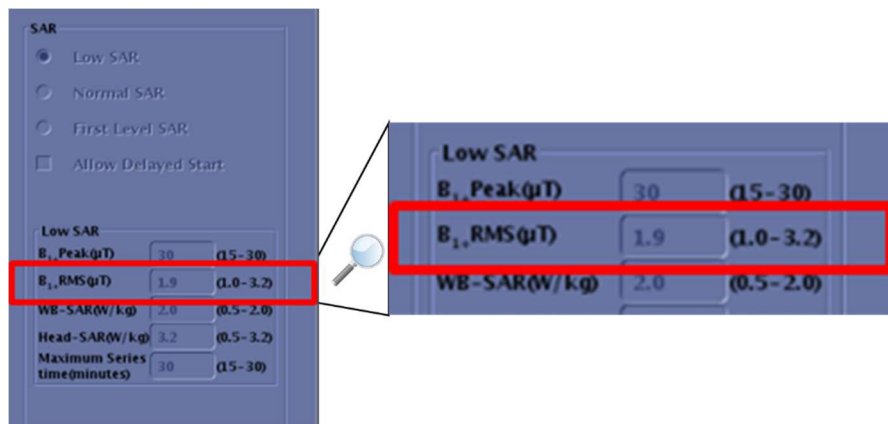
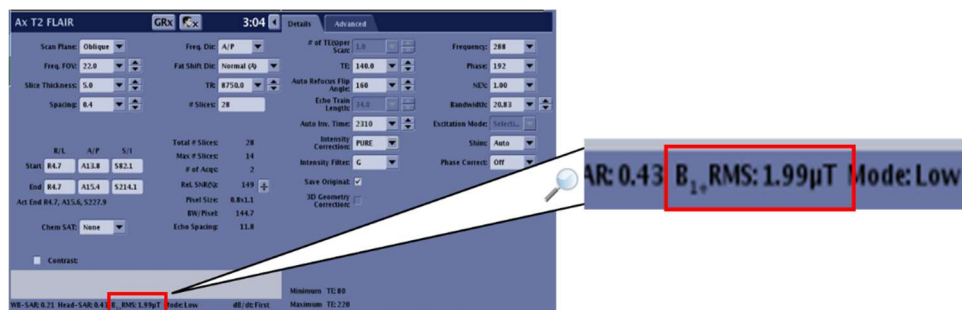

Figure 1. Low SAR Mode User Interface showing the user prescribed B₁₊RMS limit
Figure 2. Scan Prescription User Interface showing the system predicted B₁₊RMS limit
GE HealthCare has become aware that for certain MR systems (see affected products list below), the system predicted B₁₊RMS value (see Figure 2) can exceed the B₁₊RMS user prescribed limit (see Figure 1) when scanning in Low SAR Mode and the following two conditions are met:
To ensure that the displayed B₁+RMS value on the Scan Prescription User Interface (Figure 2) does not exceed the user prescribed limit (Figure 1) specified in the Low SAR Mode User Interface:
- If your software version does not include the Optimized T2 FLAIR Sequence option, adjust scan parameters such as “TR”, “# Slices” or “Auto Refocus Flip Angle” until the displayed B₁+RMS value on the Scan Prescription User Interface (Figure 2) does not exceed the user prescribed limit.